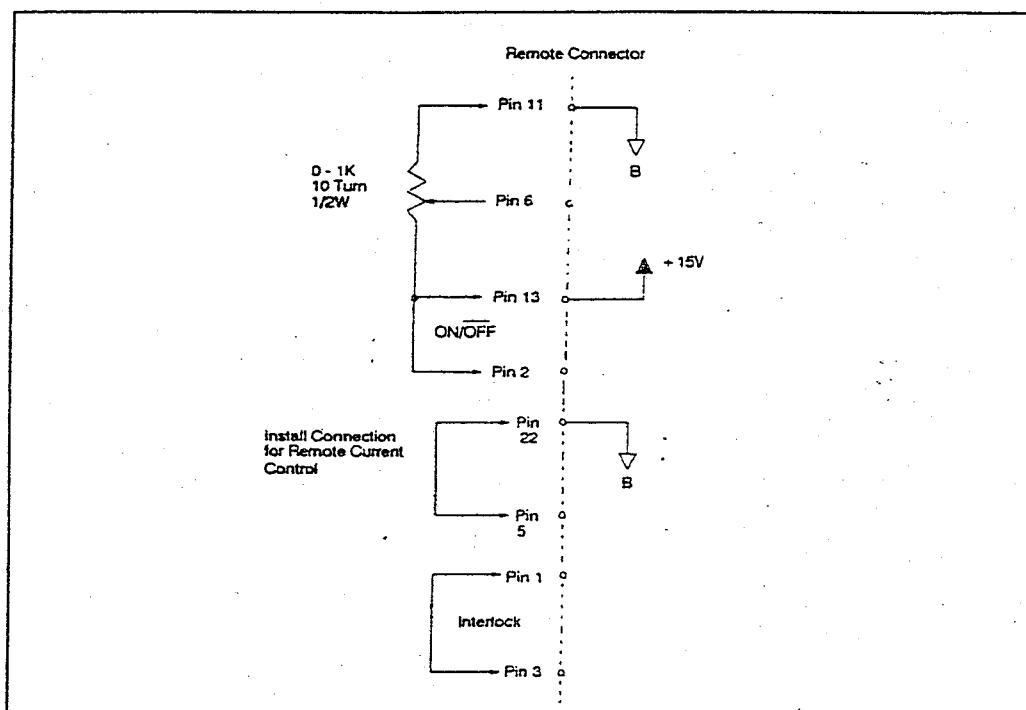

Figure 2-17. Remote Current Control Connections Using the Power Supply
3. Connect a 1K linear potentiometer (1K ohm minimum resistance) between pins 11, 6, and 13 as illustrated in figure 2-17.